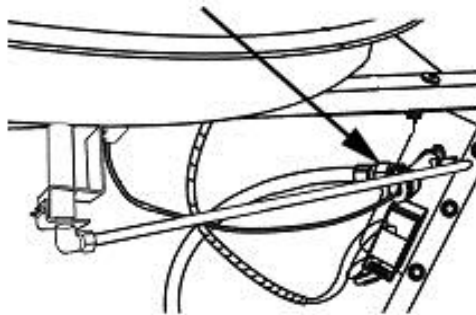

Figure 7
1. Disconnect the gas hose from the gas valve. See Figure 7.